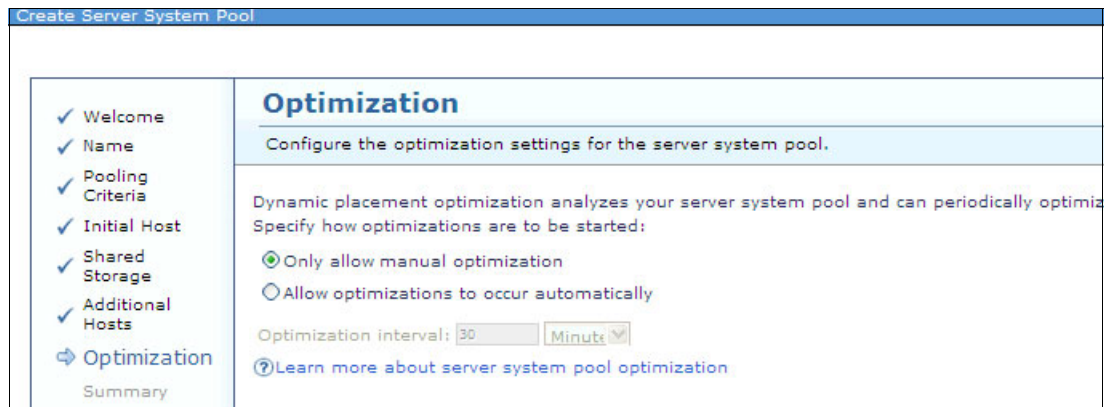

Figure 9-100 Server system pool optimization choice
9. Select the optimization mode that you want as shown in Figure 9-100, then click **Next**.